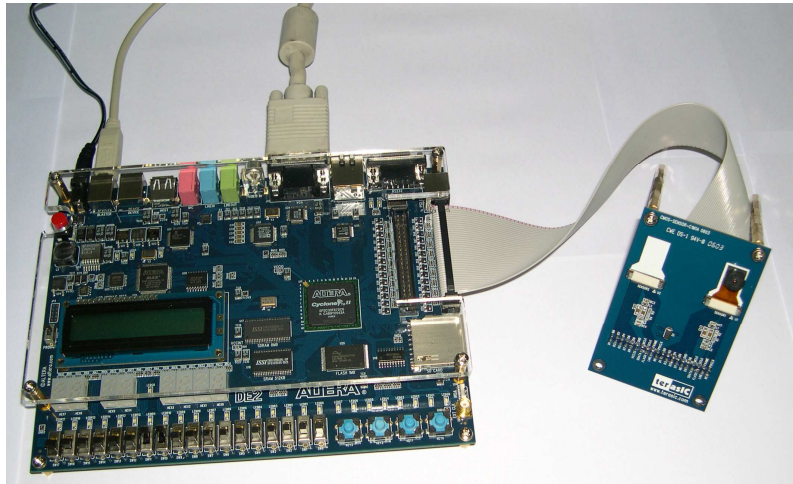
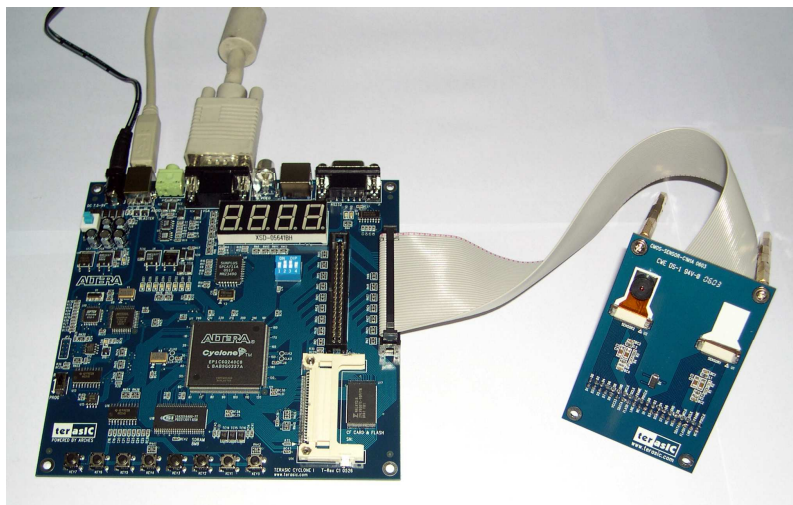

Figure 1.4 Connect the other end of IDE cable to the DE2 board's expansion port (**outermost**).
Figure 1.5 Connect the other end of the IDE cable to the TREX C1's expansion port (**outermost**).
4. Connect the other end of the IDE cable to your DE2 or TREX C1 board as shown in Figure 1.4 and Figure 1.5, respectively.